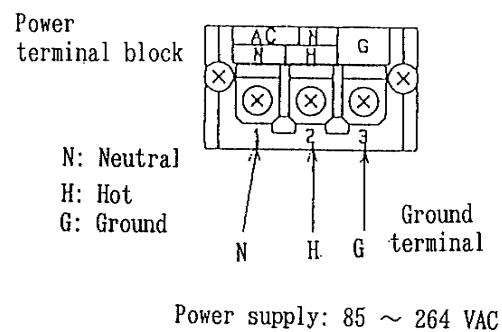

Fig. 5.2 Wiring of Power Supply
- ① Turn OFF the power switch of the recorder.
- ② Take off the clear cover of power terminal block.
- ③ Connect the wire for power supply as per the illustration of Figure 5.2.